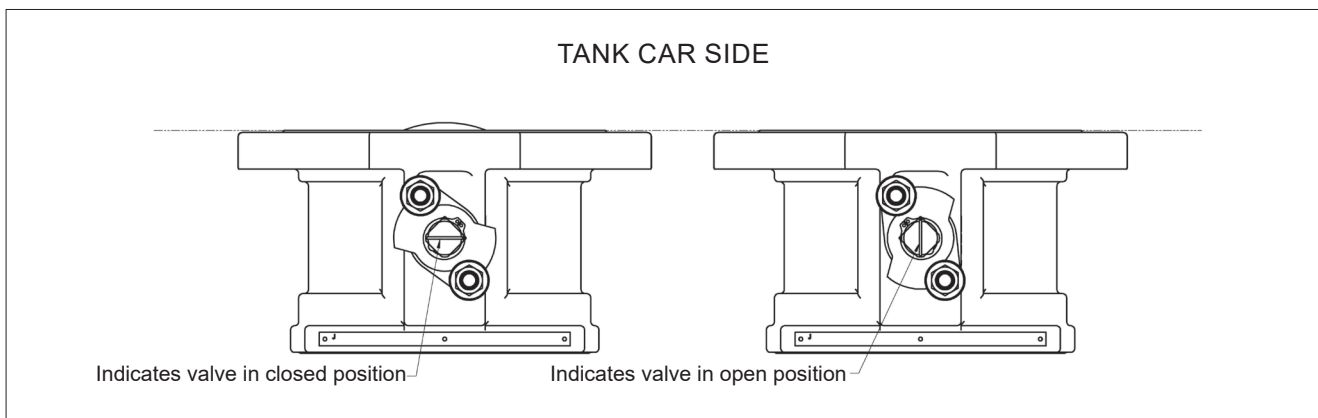

Figure 2.
Remove the flow port protectors and check that the valve is clean inside. Clean valve if necessary. The machined line of the top of the stem (5), is a visual indicator of the ball (3) port position and flow direction. **Figure 2** shows the valve installed on the tank car. Line horizontal indicates the closed position. Line vertical indicates the open position. This applied to both Standard and FO operation.